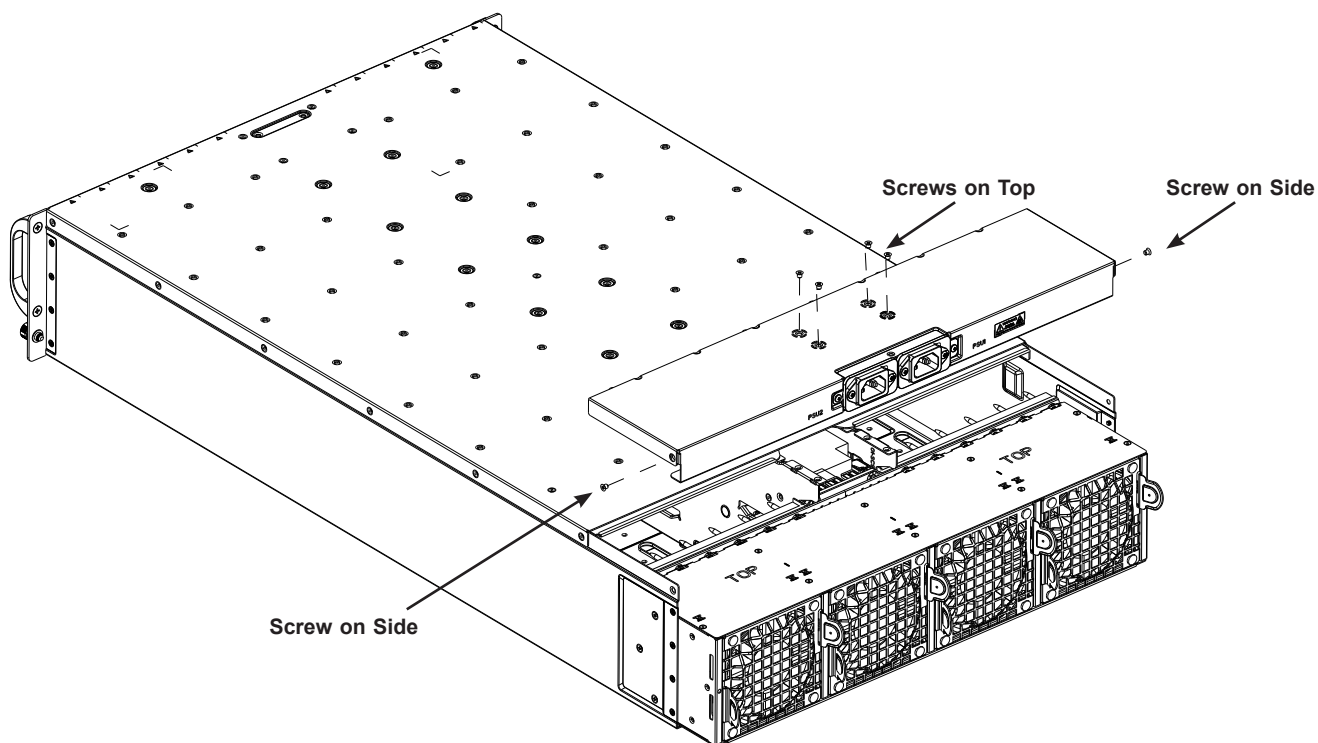

Figure 3-1. Removing the Chassis Cover
2. Remove the screws securing the cover to the chassis--four on top and two on each side. See Figure 3-1.